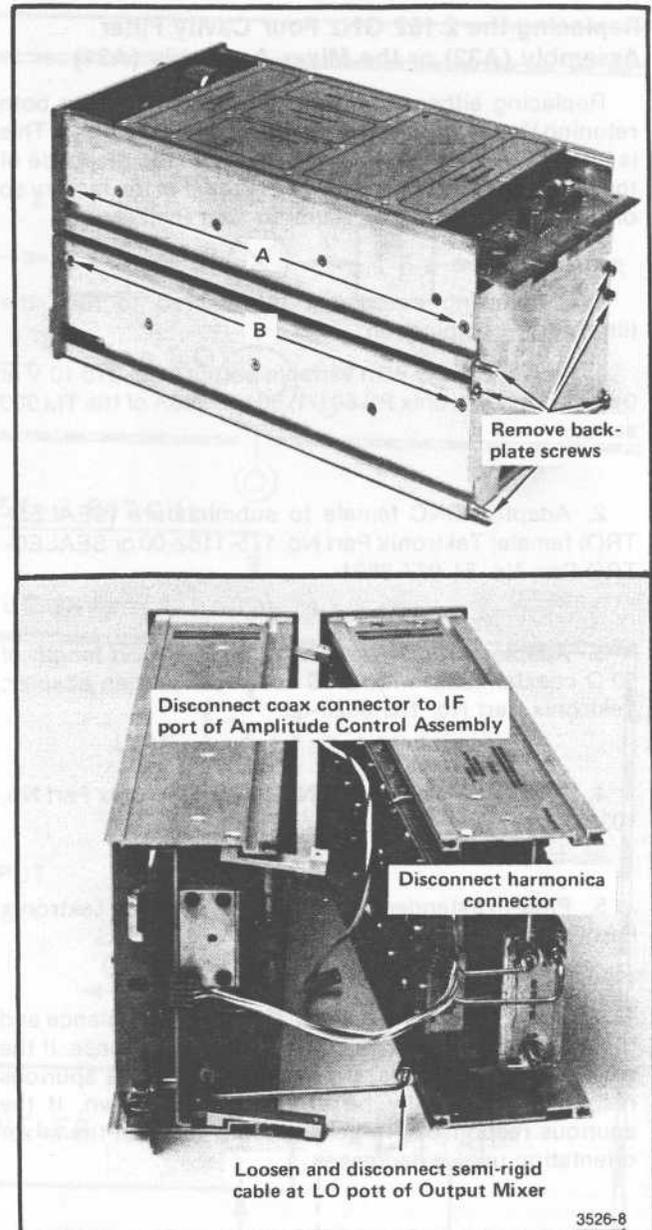

Fig. 5-5. Procedure for separating the two sections of the TR 503.
- b. Remove the four screws holding the top section to the U-shaped coupling blocks. Refer to the arrows marked "A" in Fig. 5-5. Loosen the four screws holding the bottom section to the U-shaped coupling blocks (marked "B").